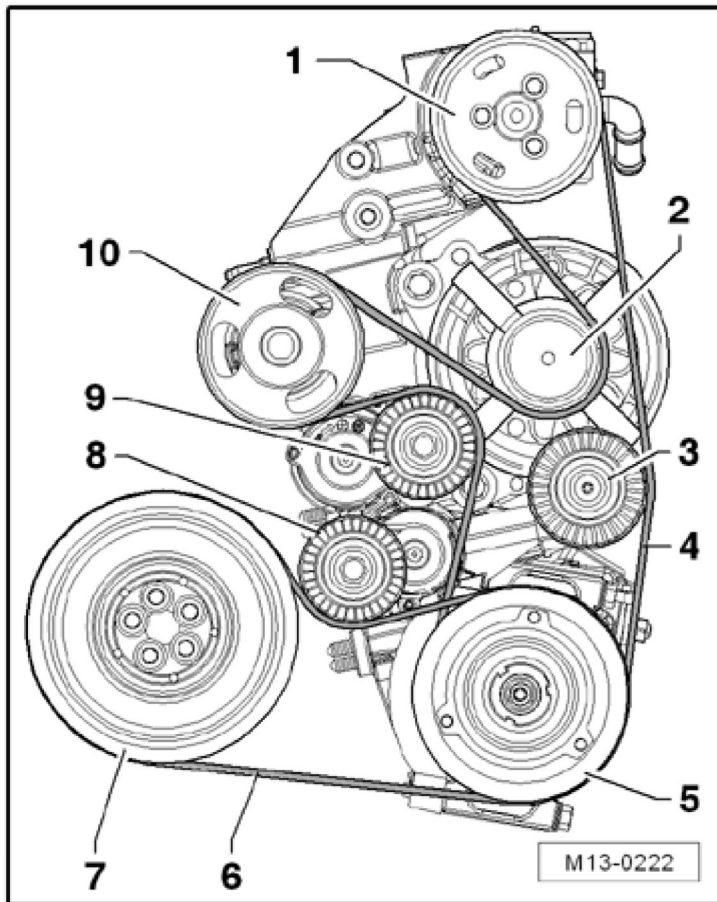

Fig. 4: Placing Ribbed Belt For Generator, Vane Pump And Coolant Pump On To Belt Pulleys & On To Idler Pulley
- Ribbed belt routing, refer to **Fig. 4**.